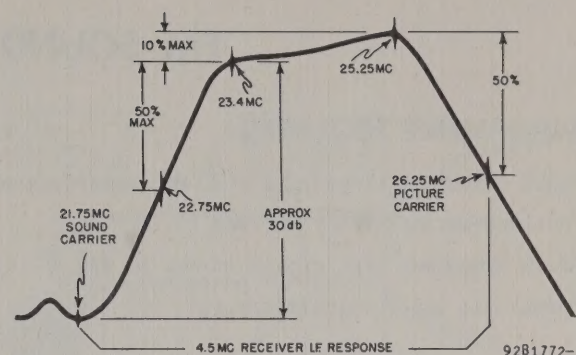

Fig. 6. I-F Amplifier Response
12. Connect one side of a 47,000 ohm $\frac{1}{2}$ watt resistor to test point ① shown in the schematic diagram. Connect the other end of the resistor to the high side of the input terminals for the vertical amplifier in the oscilloscope. The scope ground terminal connects to the receiver chassis. Keep the scope leads away from the internal chassis wiring, particularly the horizontal input section.
14. Check the position of the markers shown in Fig. 6. Adjust only the bottom cores of T-101, T-102 and T-103 for a response curve of maximum amplitude with a slightly tilted flat topped appearance as shown in Fig. 6. This tilt is required to compensate for the capacitive coupling used for the signal generators. The actual response obtained will be flat when the observed pattern on the oscilloscope has this tilt. The bottom core of T-103 will primarily control the tilt of this central portion of the curve.
The bottom core of T-101 should be adjusted to position the 26.25 MC marker in the 50% position shown in Fig. 6.
The bottom core of T-102 should be adjusted to determine the slope of the curve between 21.75 MC and 23.4 MC with the 22.75 MC marker down 50% on the curve as shown in Fig. 6.